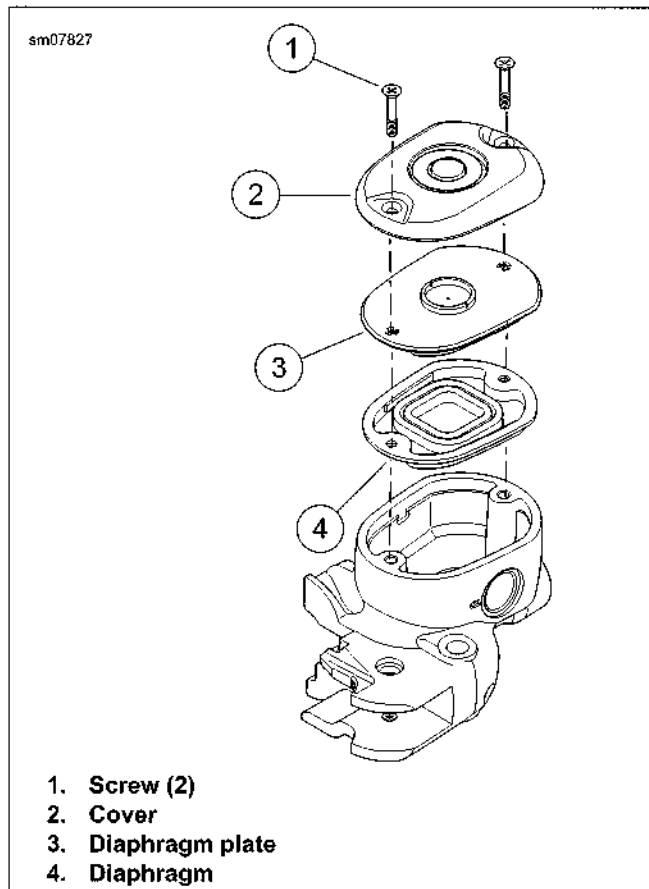

Figure 2-50. Front Brake Master Cylinder/Reservoir Cover
2. See Figure 2-50. Remove two screws (1) and cover (2).
3. Remove diaphragm plate (3) and diaphragm (4).